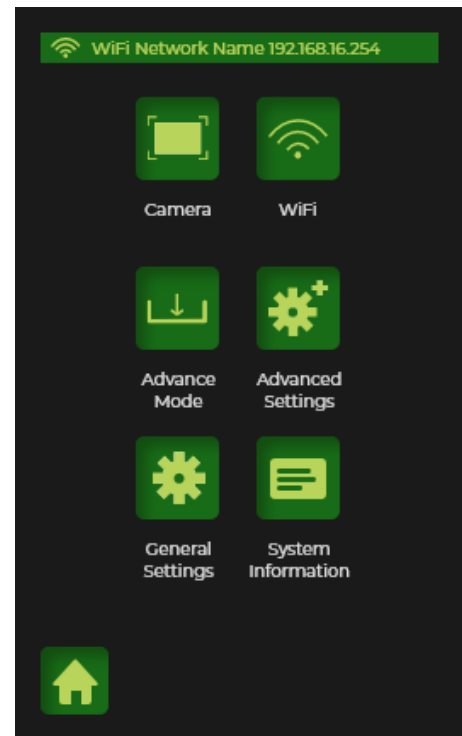

Fig. 1.10.3
Go to Cutter>My Cutter>Manage Cutters and a new window will open (FIG. 1.10.3).
2. Press the WIFI icon (Fig 1.10.3).